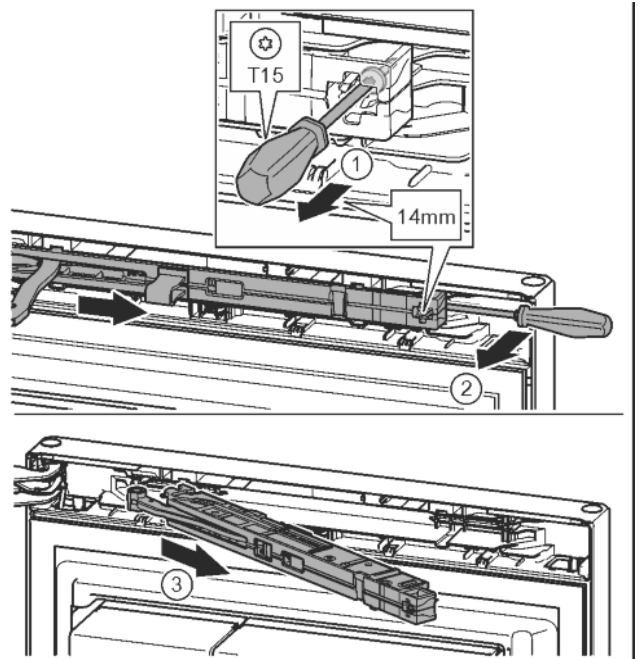

Fig. 12
- Undo the soft stop mechanism screw with a T15 screwdriver approx. 14 mm. Fig. 12 (1)
- Insert a screwdriver behind the soft stop mechanism on the handle side and rotate forwards. Fig. 12 (2)
- Remove the soft stop mechanism. Fig. 12 (3)